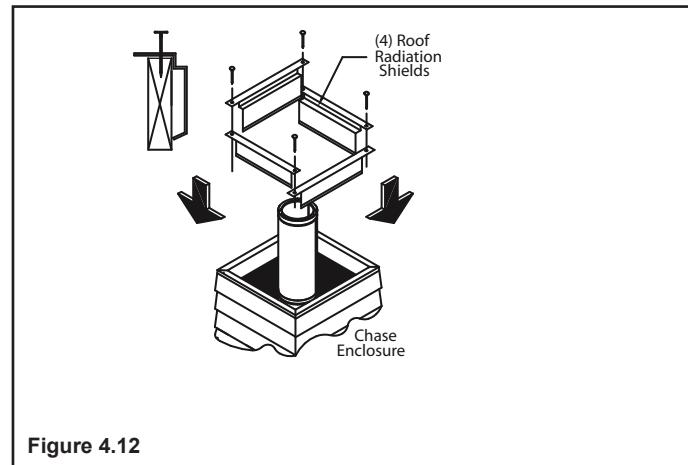

Figure 4.12
- Roof radiation shields are built with a 1/2" air gap standoff from the joist face (Figure 4.12). The corners of the roof radiation shields overlap each other to ensure proper position.